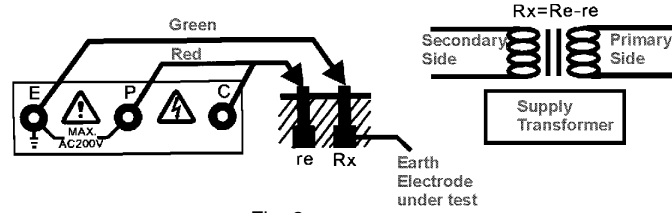

Fig. 2
- (1) This method is recommended where an earth resistance higher than 10 Ω is measured or where it is not possible to drive auxiliary earth spikes. An approx. value of earth resistance can be obtained by the two-wire system as shown in Fig. 2
- (2) Rotate the function switch to the "Earth Voltage" position and press to test. Make certain that earth voltage is less than 10 V.
- (3) First rotate the function switch to "200 Ω " position and press to test. Read earth resistance. If the display shows "1" (MSD), switch to "2000 Ω " and read earth resistance.
(4) The reading obtained (R_x) is an approx. earth resistance value.